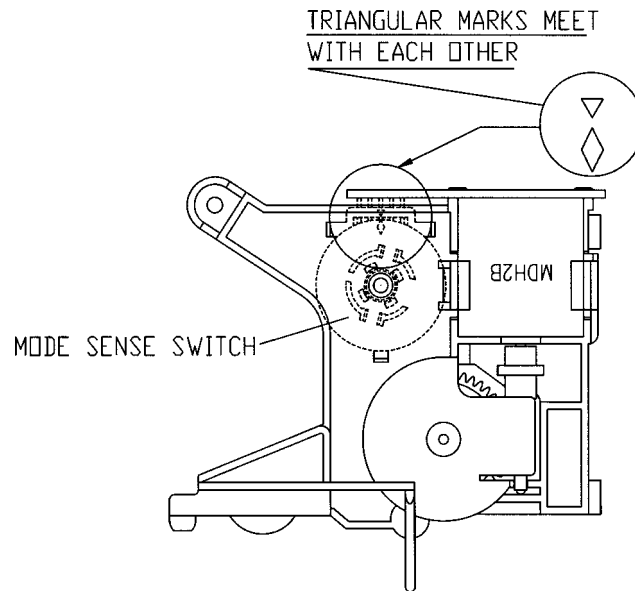

Fig. 3 Mechanical Checks/Mode Sense SW Alignment
3. There are two (2) triangular marks on the mode sense switch. When installing the L/C bracket assembly on the main base, confirm that the two (2) triangular marks are aligned with each other in the EJECT mode. (Fig. 3)